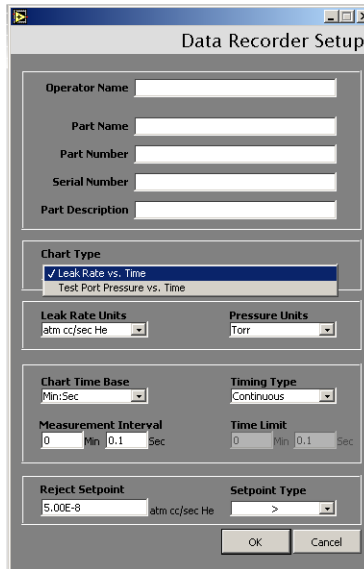

Figure 2-3 Data Recorder Setup
Use Figure 2-3 to set up the data recorder.
1. Click **Data Recorder** on the *Home* screen and Figure 2-3 appears.